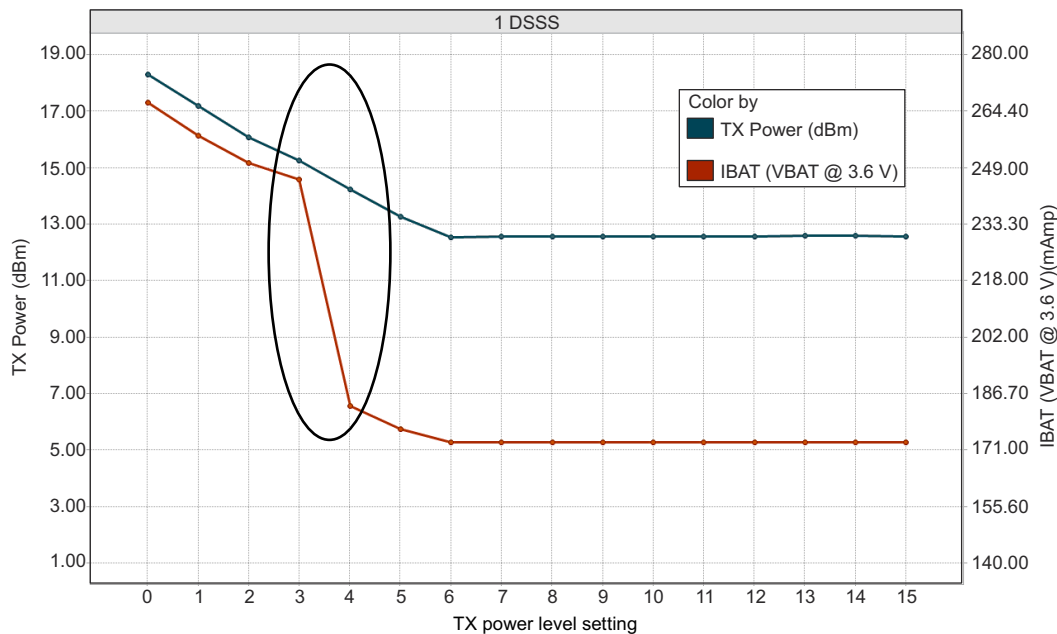
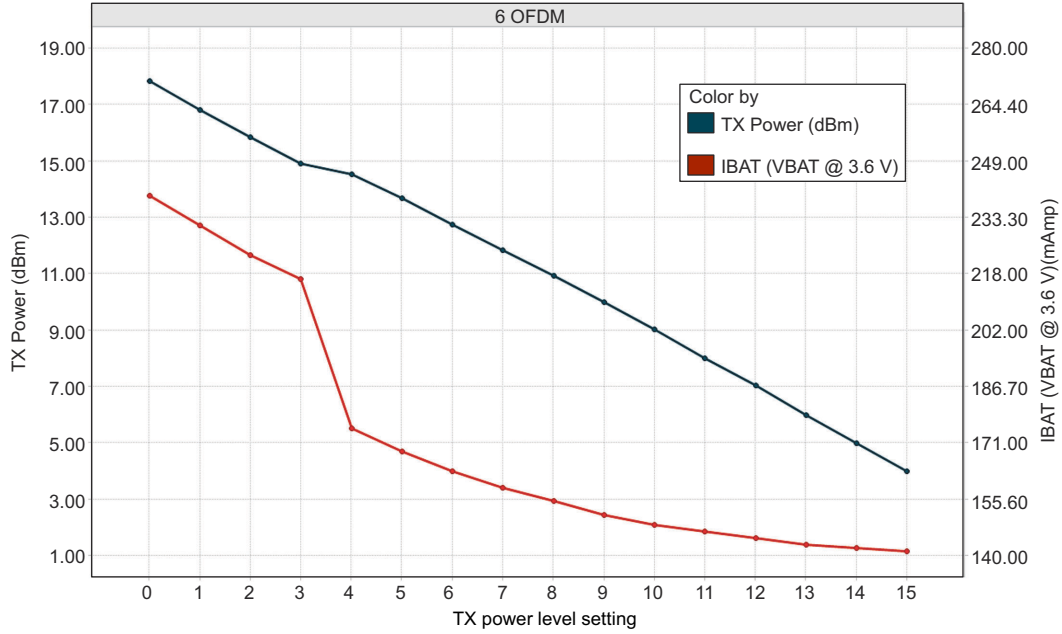
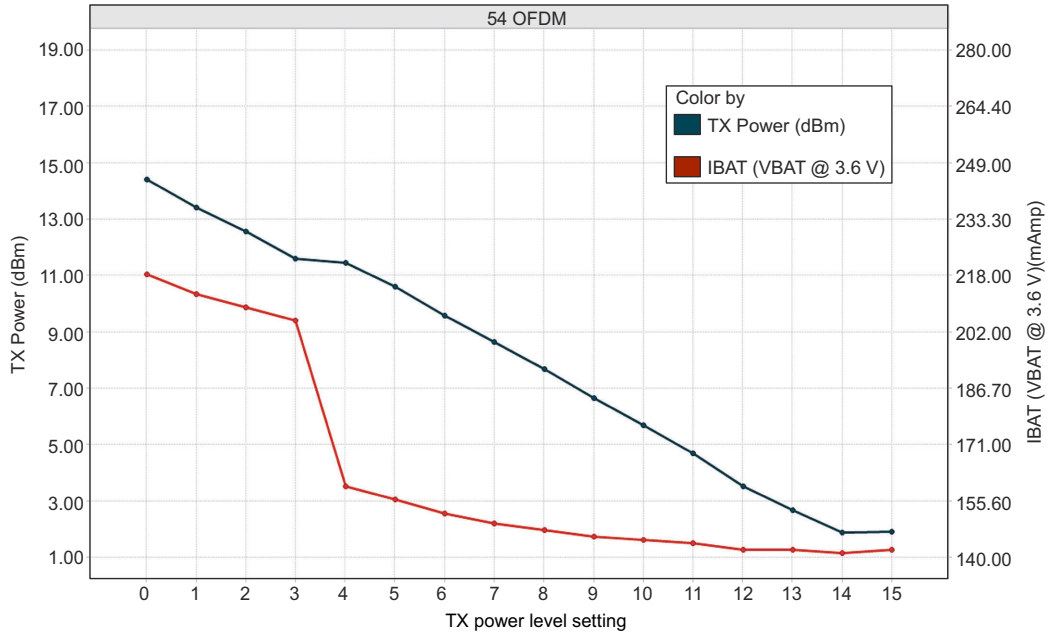

Figure 7-1. TX Power and IBAT vs TX Power Level Settings (1 DSSS)
Figure 7-2. TX Power and IBAT vs TX Power Level Settings (6 OFDM)
Figure 7-3. TX Power and IBAT vs TX Power Level Settings (54 OFDM)
- (1) TX power level = 0 implies maximum power (see 図 7-2, 図 7-2, and 図 7-3). TX power level = 4 implies output power backed off approximately 4dB.
- (2) LPDS current does not include the external serial flash. The CC3235MODx and CC3235MODAx can be configured to retain 0KB, 64KB, 128KB, 192KB, or 256KB of SRAM in LPDS. Each 64-KB block of MCU retained SRAM increases LPDS current by 4μA.
- (3) DTIM = 1
- (4) The complete calibration can take up to 17 mJ of energy from the battery over a period of 24 ms. Calibration is performed sparingly, typically when coming out of HIBERNATE, and only if the temperature has changed by more than 20°C. The calibration event can be controlled by a configuration file in the serial flash.
- (5) Typical numbers assume a VSWR of 1.5:1.
Figure 7-1, Figure 7-2, and Figure 7-3 show TX power and IBAT versus TX power level settings for the CC3235MODS module at modulations of 1 DSSS, 6 OFDM, and 54 OFDM, respectively. For the CC3235MODSF module, the IBAT current has an increase of approximately 10 mA to 15 mA depending on the transmitted rate. The TX power level remains the same.4
In Figure 7-1, the area enclosed in the circle represents a significant reduction in current during transition from TX power level 3 to level 4. In the case of lower range requirements (14-dBm output power), TI recommends using TX power level 4 to reduce the current.